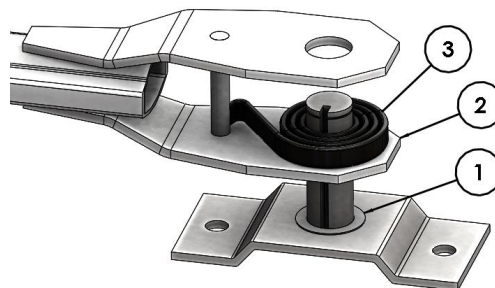

Figure 4.6
The torsion springs are designed with a tab which is inserted into the pivot pin slot. Install bushing/flat washer (1) over pivot pin. Slide bottom of the arm (2) over the pivot pin and install springs (3) one at a time as shown (Figure 4.6).